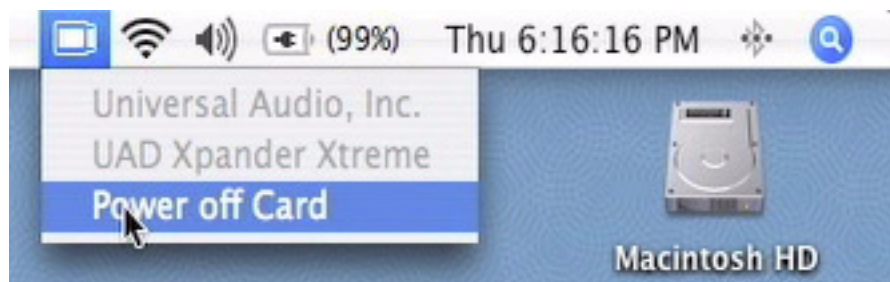

Figure 27. ExpressCard Power Down (Mac)
- (Mac) In the Menu Bar, click the ExpressCard status menu icon, and select “Power off Card” (Figure 27 on page 126)